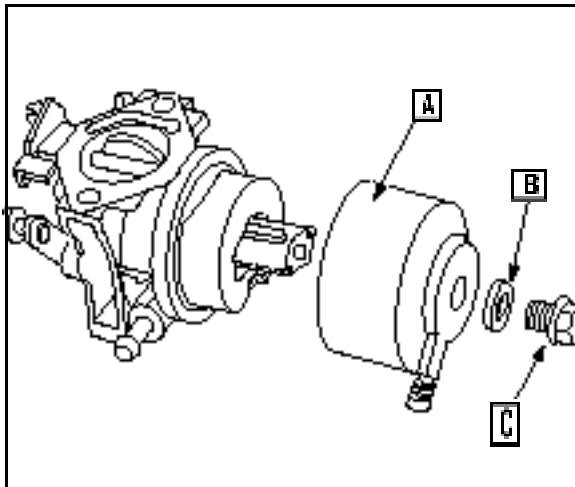

Fig. 72
1. Remove the float bowl mounting screw (C), washer (B) and float bowl ([A] Fig. 72).